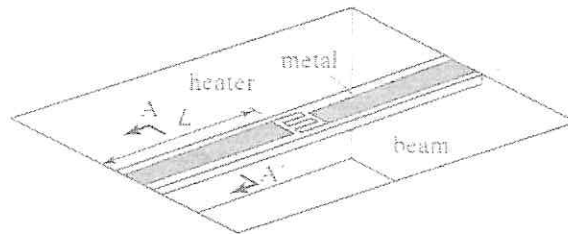

Figure Q2
- (a) A resistive ohmic heater is located in the middle of a suspended fixed-fixed cantilever. The beam is made of silicon nitride and the metal leads are made of aluminum. As shown in Figure Q2, the width of the beam is $10\ \mu\text{m}$, $L = 100\ \mu\text{m}$, and the thickness of both aluminum (t_m) and silicon nitride (t_b) is $0.2\ \mu\text{m}$. The thermal conductivity of aluminum and silicon are 240 and $5\ \text{W/mK}$, respectively.